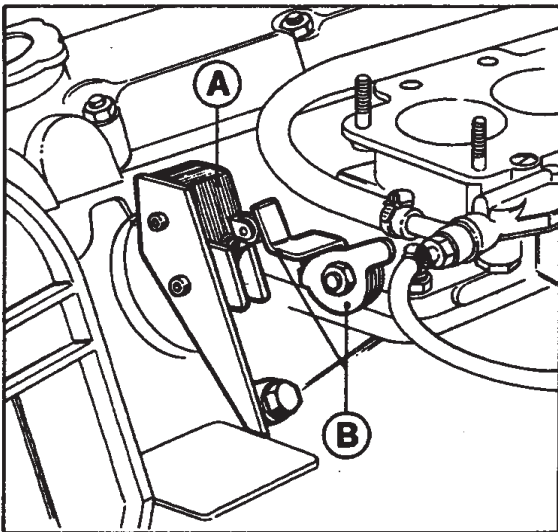

Fig. 9 - MICROSWITCH CONTROL of the DISTRIBUTORS RETARDED POINTS
- To hold the microswitch lever (see fig.9) in the position towards the microswitch body thus operating the distributor retarded breaker points R2.